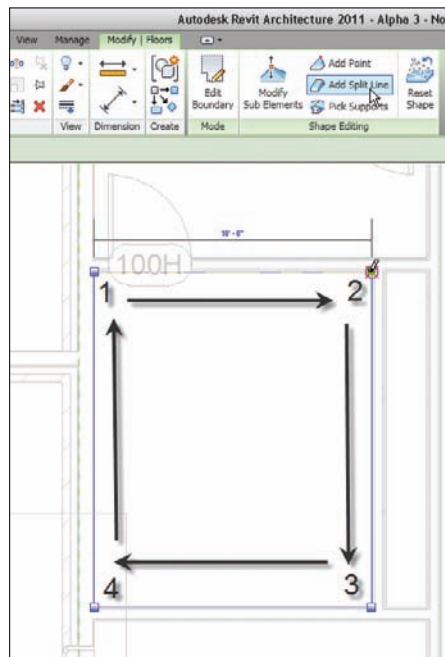

FIGURE 6.46 Drawing a split frame around the inside of the lavatory
2. Zoom in on the lavatory areas, as shown in Figure 6.46.
4. Now that the floor is selected, notice on the Modify | Floors tab that you have several choices. Click the Add Split Line button (see Figure 6.46).
5. Draw lines along the finished inside face of the lavatory, as shown in Figure 6.46. As always, there can be no gaps or overlaps.